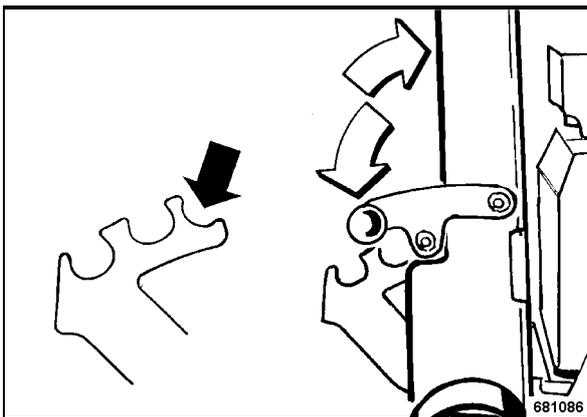

Fig. 46
- Adjust the steering rod (Fig. 46) in upright position and lock it in the last locking position.